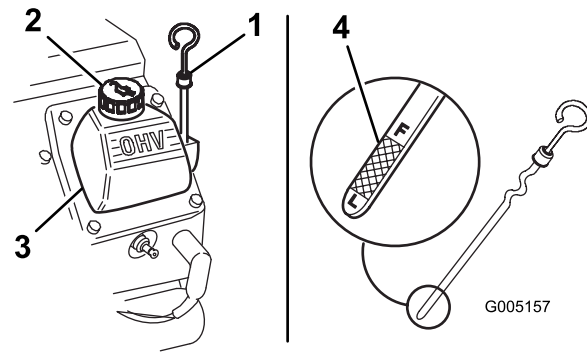

Figure 7
3. Clean around the oil dipstick (Figure 7).
4. Pull out the dipstick and wipe the metal end clean (Figure 7).
5. Slide the dipstick fully into the dipstick tube (Figure 7).
7. If the oil level is low, clean around the oil filler cap and remove the cap (Figure 7).